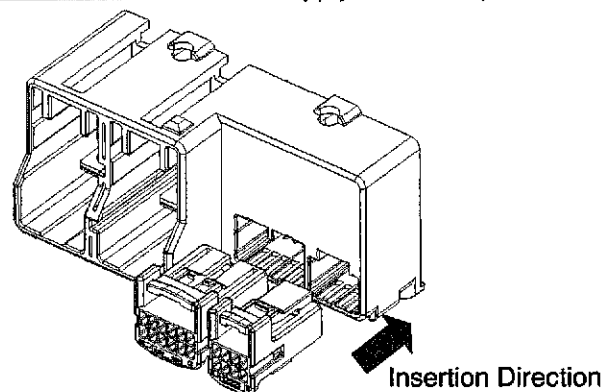

Fig.15
(1) Check to make sure that the contact is inserted into the housing in proper condition, the wire is taped up from proper position, and the retainer is in final lock condition. If the retainer is in pre-assembled condition, it must be changed to be in final lock condition. See para.6.
(2) And then check the contact and the housing into the male housing for defects, deformation, discoloration, damage, rust, crack, deficit, etc.
(3) Insert the proper female housing into the male housing straight with same direction as shown in Fig.15. The operation is finished when you hear the click sound and can not insert further. When you can not insert the housing, do not insert by force, and check the items in (1), (2).